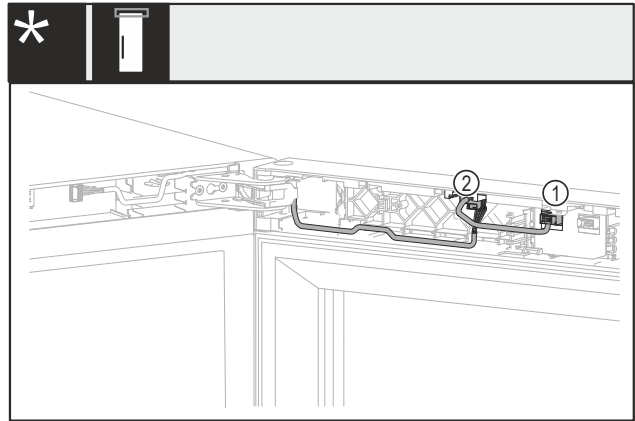

Fig. 19 Without lock or with mechanical lock\*
- Pull out the plug Fig. 19 (1)\*
- Pull out the plug Fig. 19 (2)\*